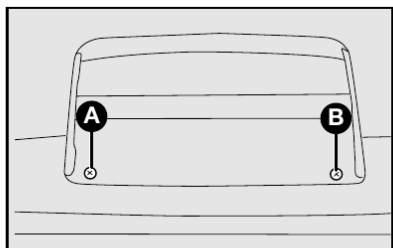

fig. 54
- 1) com a tampa traseira aberta, retirar os parafusos **A**-fig. 54 e remover o brake-light;